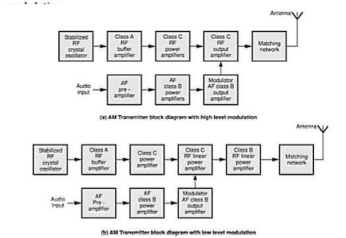

Fig. Q.36.1
Ans. : • Fig. Q.36.1 shows the block diagram of an AM transmitter. Fig. Q.36.1 (a) shows AM transmitter with high level modulation and Fig. Q.36.1 (b) shows AM transmitter with low level modulation.
• Looking at the Fig. Q.36.1 it can be seen that stable RF source, buffer amplifiers and subsequent RF power amplifiers are common for both, low level modulation transmitter and high level modulation transmitter.
• The buffer amplifiers are usually class A amplifier whereas power amplifiers are class C amplifiers. In both, audio and power audio frequency (AF) amplifiers are present.